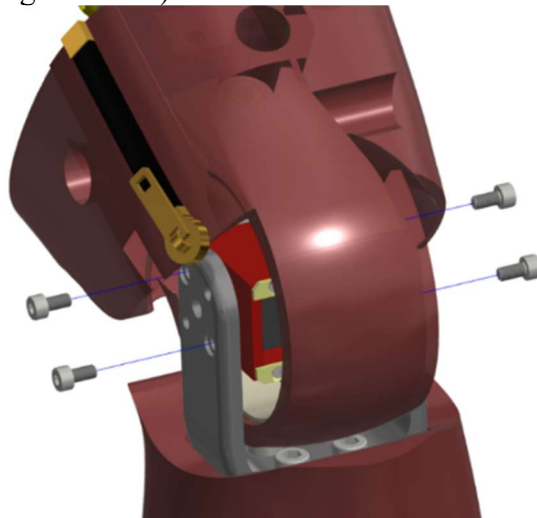

Figure 10-69. Attach the lower leg to the upper leg
- 10.4.1 With the lower leg perpendicular to the upper leg, align the holes of the knee clevis (attached to the Lower Extremity) with the threaded holes in the knee assembly. Secure the clevis to the knee using four M6 X 1.0 X 10 FHCS (two per side) (Figure 10-69).